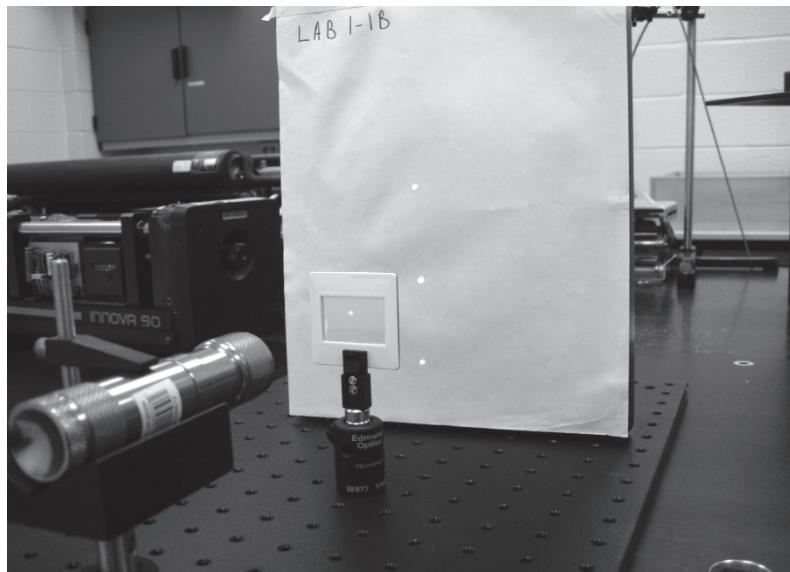

Figure 10 – Diffraction Grating Pattern Set-up
1. Using the V-Clamp for laser (LI-2), a 1.5" post (LI-5), and a 1.5" post holder (LI-4), mount the laser diode module (LI-1 and LI-2) to the optical breadboard (LI-3). Mount a 1.5" post holder onto a mounting base (LI-6). Insert a 1.5" post into the 1.5" post holder. Mount the dual filter holder (LI-8) to the post inserted into the post holder. Insert the diffraction grating (LI-7) into the filter holder. Place the diffraction grating assembly in line with the laser between 6 inches and 12 inches from the laser. Tape (LI-10) white paper (LI-9) to an upright surface 6 to 12 inches from the diffraction grating assembly. Turn the laser diode module on. Point the beam so that it goes through the grating perpendicular to the grating surface and onto the upright surface. There it produces a center spot with diffracted spots on both sides as shown in Figure 10.